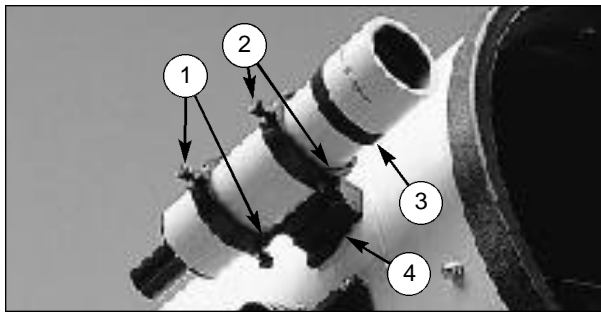

Fig. 9: 8 x 50mm Viewfinder. (1) Rear-most Alignment Screws; (2) Front-most Alignment Screws; (3) Viewfinder Focus Lock Ring; (4) Mounting Bracket.
1. Remove the viewfinder from its mounting bracket (4), Fig. 9, by slightly unthreading the six alignment screws until the viewfinder can slip out easily.
2. Loosen the viewfinder focus lock ring (3), Fig. 9, at the objective-lens-end of the viewfinder, enabling rotation of the objective lens cell clockwise or counterclockwise for precise focusing while looking at a distant object through the viewfinder.
1. The viewfinder bracket (4), Fig. 9, includes six alignment screws. Turn the three rear-most alignment screws (1), Fig. 9, so that the viewfinder tube is roughly centered within the viewfinder bracket, as viewed from the eyepiece-end of the telescope.
3. While looking through the viewfinder, gently turn one or more of the three front-most viewfinder alignment screws (2), Fig. 9, until the crosshairs of the viewfinder point at precisely the same position as the main telescope. During this procedure, occasionally look through the main telescope to make sure the object is still centered.